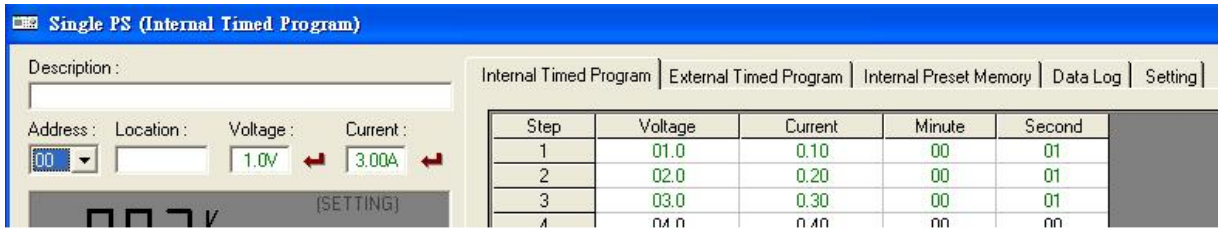
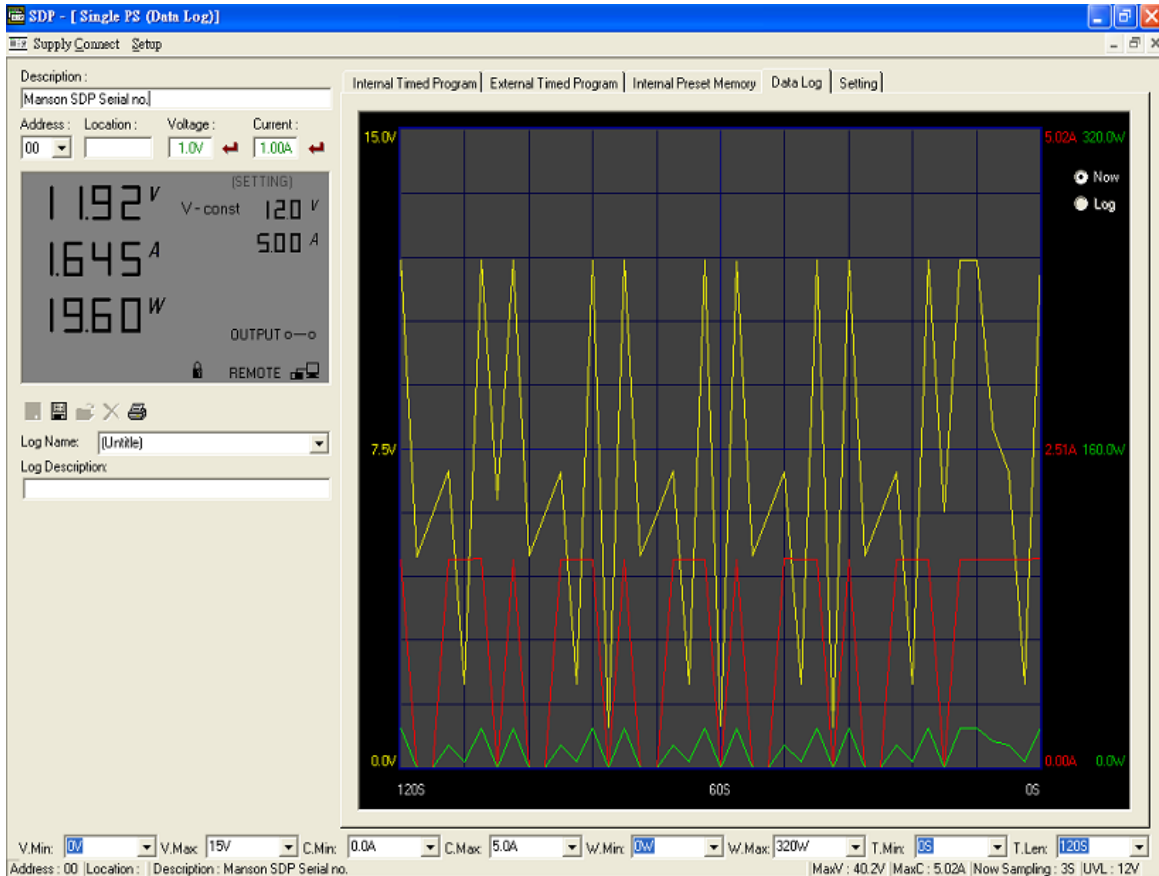

Figure 8.4.1b Internal Timed Program Header.
Figure 8.4.1c Data Log Window
6. An 'Internal Timed Program' Window will appear as shown in Figure 8.4.1b. Click on the *Data Log* header on top right and a *Data Log* Window as shown in Figure 8.4.1c will appear.